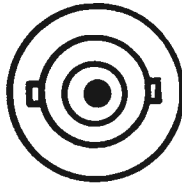

Figure 2.16 High Voltage PMT Connectors
2.2.1 HIGH VOLTAGE PMT CONNECTORS (Figure 2.16)